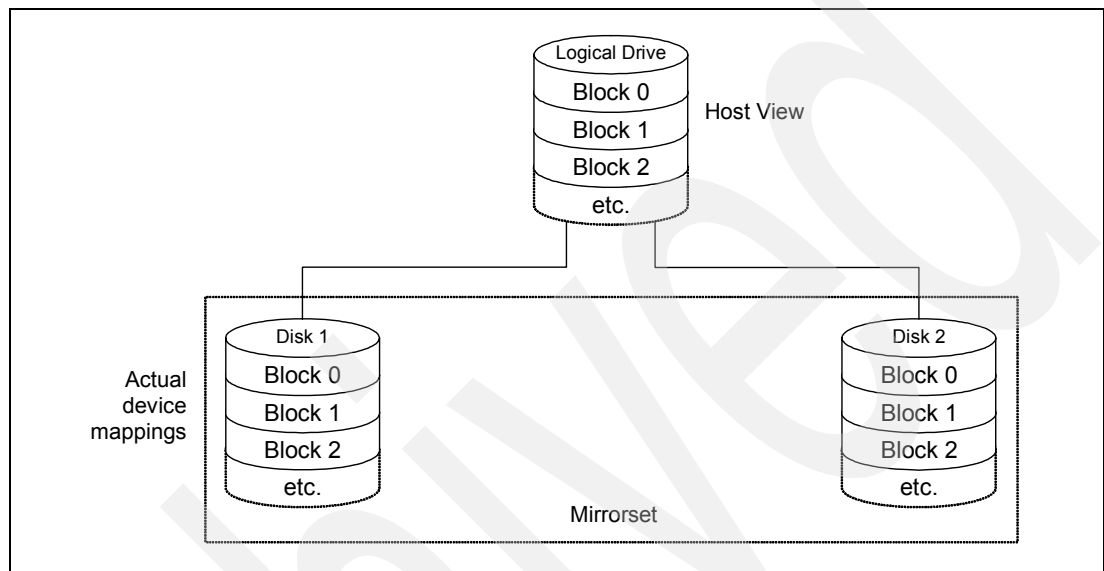

Figure 2-16 RAID-1
► RAID-1: For availability/good read response time (Figure 2-16)